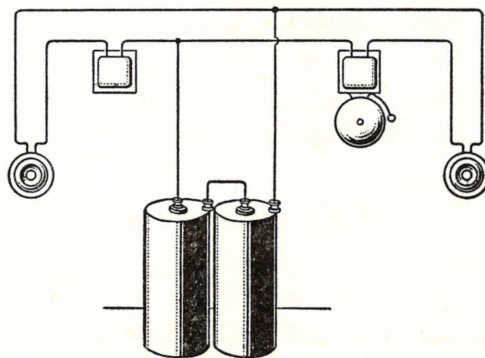

Fig. 351—Diagram of a bell circuit so that one button will ring a bell and the other button will ring a buzzer
1. Wire the circuit, using wiring plan in Fig. 351.